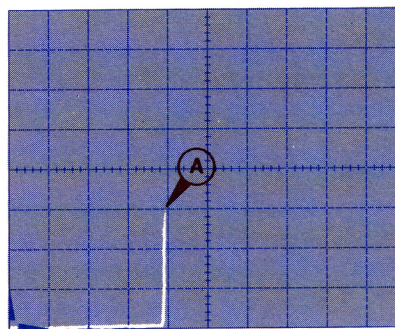

Figure 4-1. Display of peak-point emitter current I_p . Point (A) is the peak-point.
- 6) Find peak-point current — Find point where displacement is vertical, and then jumps. Last point before jump is peak-point current measurement point. See Figure 4-1.